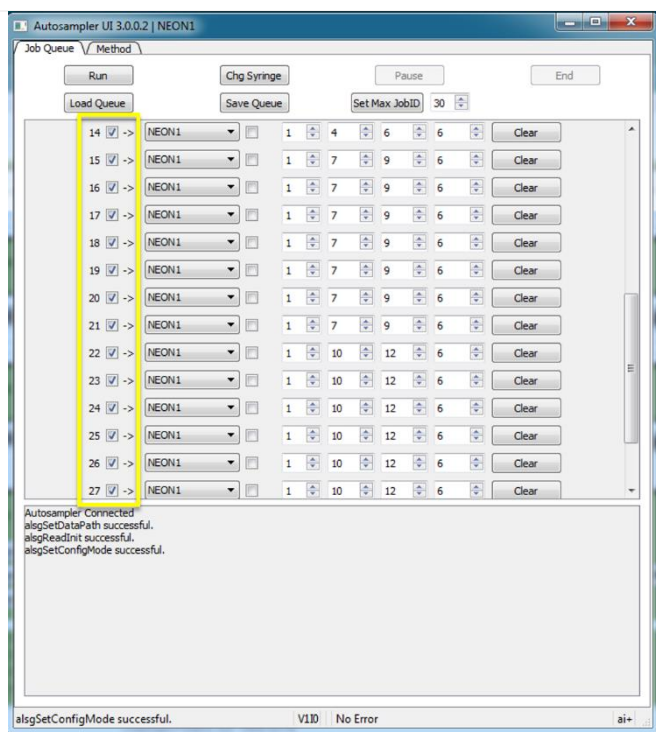

Figure 167. Select the Lines 1-30 under the NEON1 Method.
STEP 7 | Ensure the boxes for lines 1-30 are checked under the ID column (Figure 167).